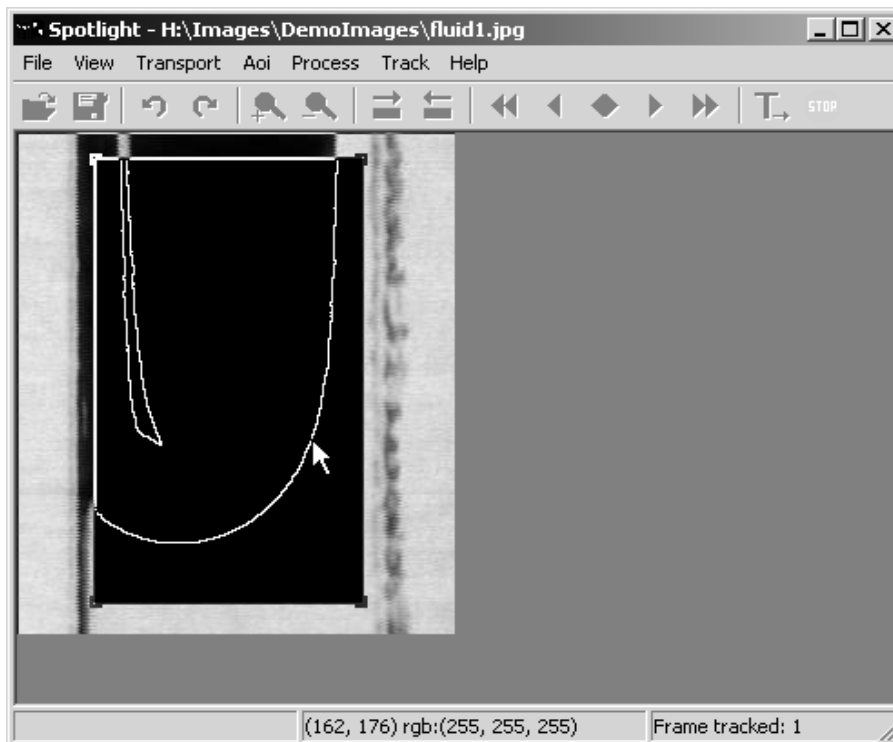

Figure 31. – Line Following example.
6. Click the "Track One" button to track one frame at a time. At this point the image inside the Line Following AOI should look just like the one shown in Figure 31. The Stop button is showing and the program is waiting for you to click on the line to give it a start point. Click anywhere on the line and watch the line turn red, indicating exactly which points were saved to the results file. The procedure may be repeated for each frame by clicking on the "Track One" button or the user may want to enter a semi-automated tracking mode by clicking on the "Track Continuous" button. Note that even in the continuous tracking mode the program waits for the user to click the line after each frame.